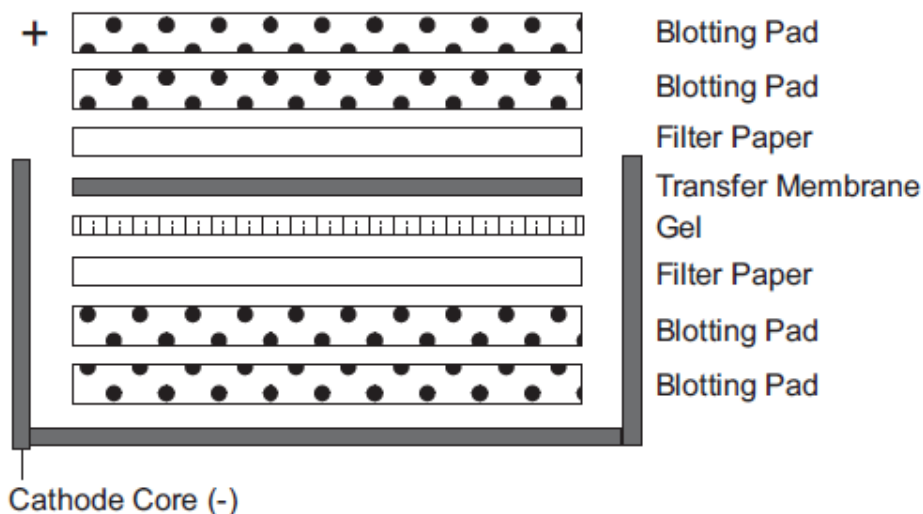

Figure 1
8. Place two soaked blotting pads into the cathode (–) core of the blot module. The cathode core is the deeper of the two cores and the corresponding electrode plate is a darker shade of gray. Carefully pick up the gel/membrane assembly and place it on the pad such that the gel is closest to the cathode plate (see Figure 1).